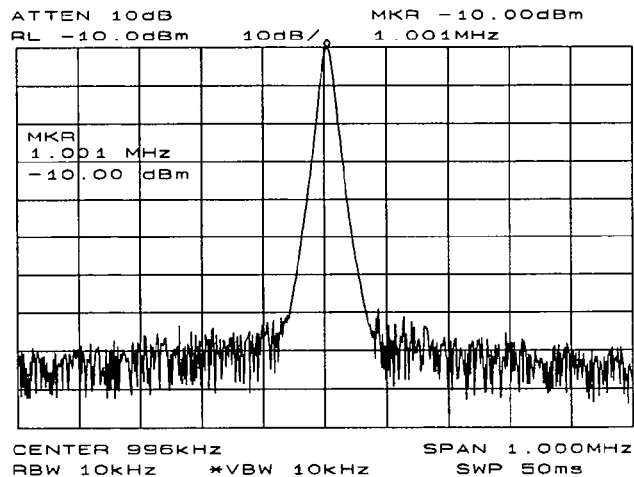

Figure 3-5. Input Signal Displayed in a 1 MHz Span
1. Using the present setup, clear the markers from the screen by pressing **MKR**, then **MARKERS OFF**. Notice that when **MARKERS OFF** or **HOLD** is pressed, the display expands to the full size of the screen, for easier viewing. To measure the fundamental, press **PEAK SEARCH**, which activates a marker on the highest-level signal on-screen. Reduce the frequency span to 1 MHz by pressing **SPAN**, then **SPAN ZOOM** and entering 1 MHz. The span zoom function allows you to quickly “zoom” to a narrower frequency span without losing the signal from the screen (since signal track is activated). After the frequency span is reduced, turn off the signal-track function by pressing **MKR**, and setting **SIG TRK ON OFF** to **OFF**. Next, set the center-frequency step-size to the frequency of the fundamental by pressing **MKR ->**, then **MARKER -> CF STEP**. For better amplitude accuracy, move the signal to the top of the graticule by pressing **MARKER -> REF LVL**. The resulting display should resemble Figure 3-5.